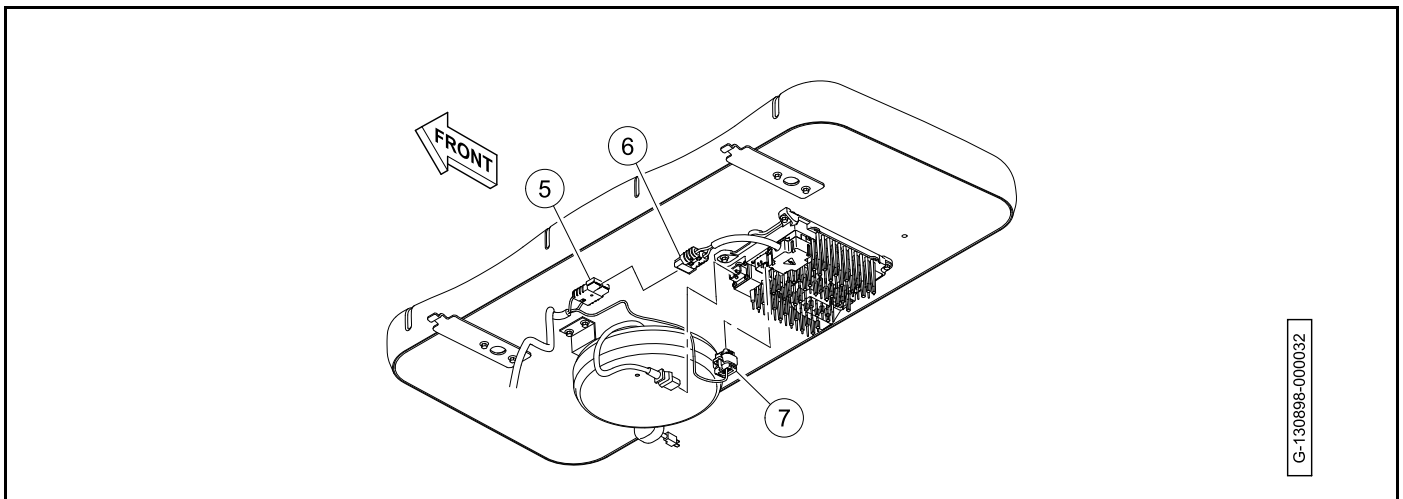

Figure 15-38 Charger Harness Connections
3. Connect the charger harness (5) from the charger power harness (6) (**Figure 15-38**).